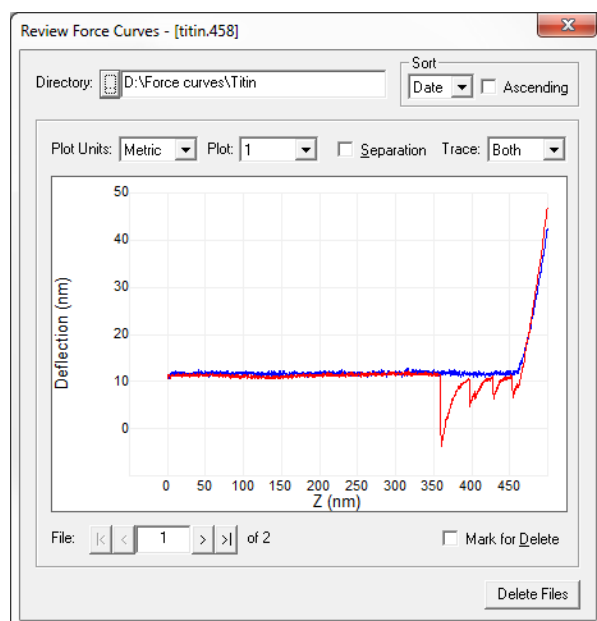

Figure 7.5a: The **Review Force Curves** window for reviewing multiple force plot files
2. The **Review Force Curves** window, shown in Figure 7.5a, opens.